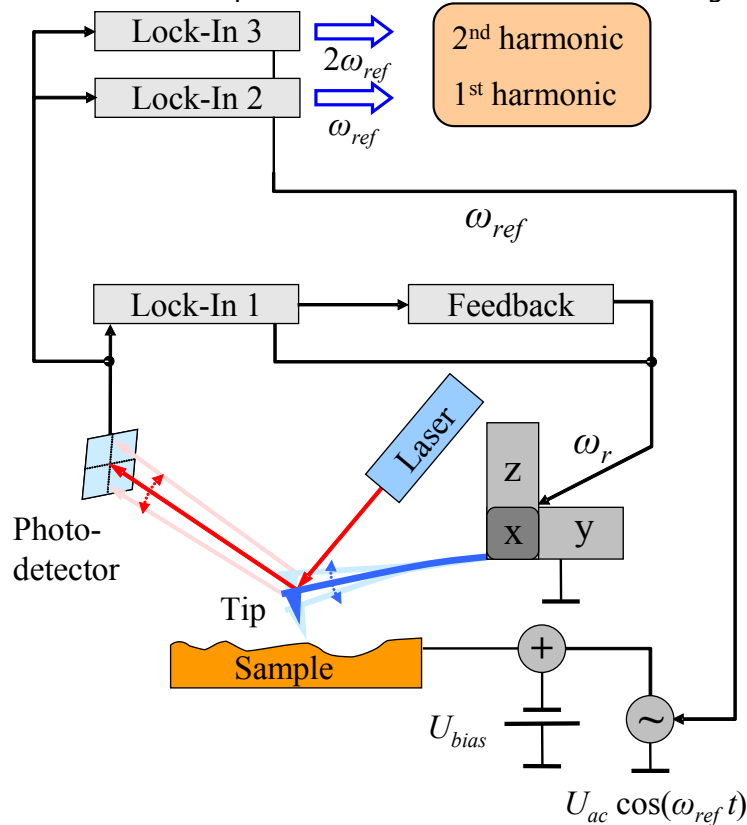

Figure 4: Schematic diagram of the EFM experimental setup.
Inserting equation (6) in (5) and using power-reduction formulas of trigonometric functions one can expect a force between tip and sample at the frequency ω_{ref} as well as at $2 \cdot \omega_{ref}$. Figure 4 confirms this prediction: It shows the frequency spectrum of the cantilever oscillation with clear signals at the mechanical excitation frequency ω_r and at the frequencies of the first and second harmonic of the electrical excitation.